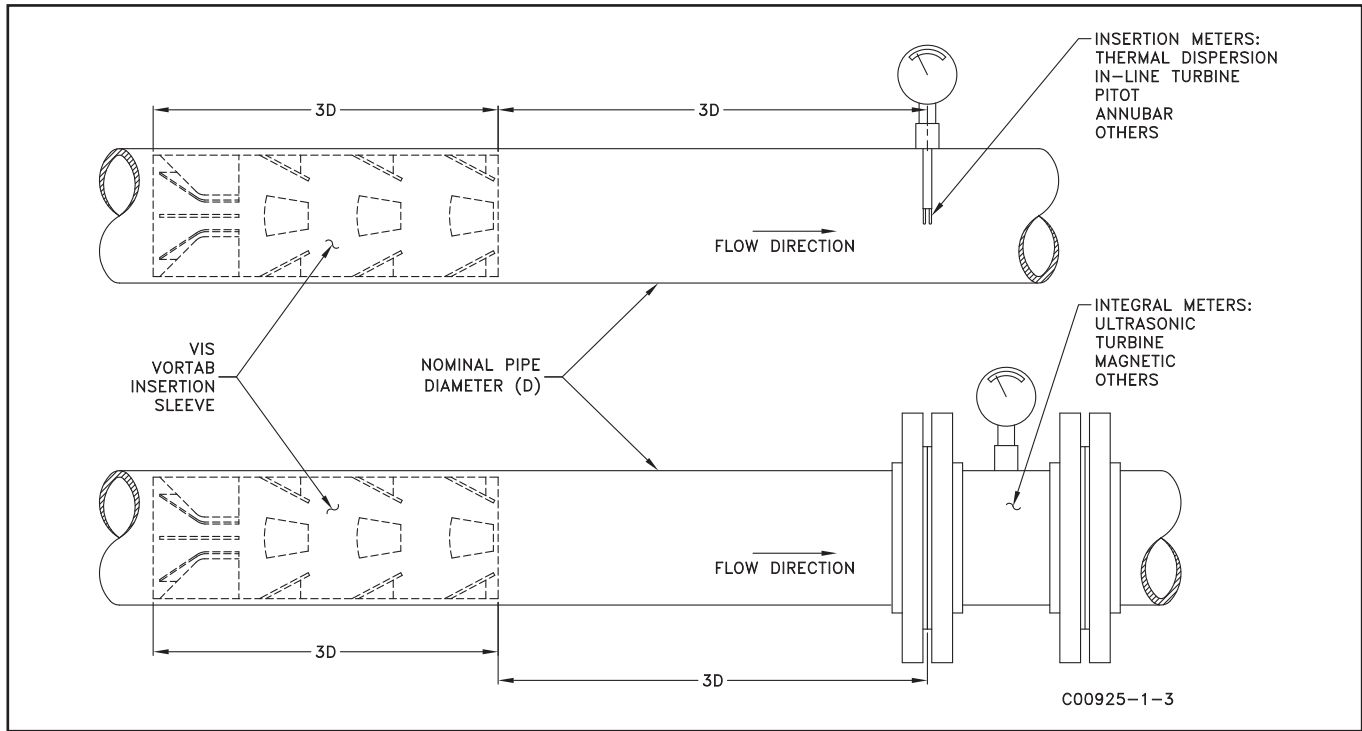

Figure 2-7. Orientation of VIS in Process Pipe or Duct
- The outlet of the VIS must be located three nominal pipe diameters (3D) upstream from the customer meter. The process pipe must continue straight for at least 1 pipe diameter (1D) past the customer meter. See Figure 2-7.